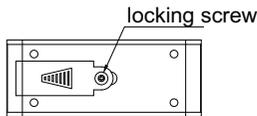

Fig.1
- Loosen the locking screw on the battery cover(Fig.1)